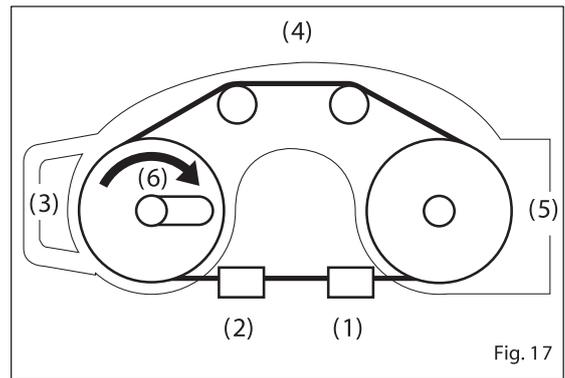

Fig. 17
Attaching the blade (Fig. 17)
- Attach the blade, using steps (1) through (5) in Fig. 17. Then turn the tension lever clockwise (6) to apply tension to the blade.